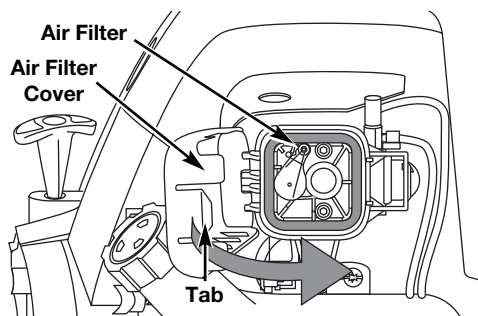

Fig. 37
8. Swing the cover to the right until the tab on the air filter cover snaps into place in the slot on the back plate (Fig. 37).